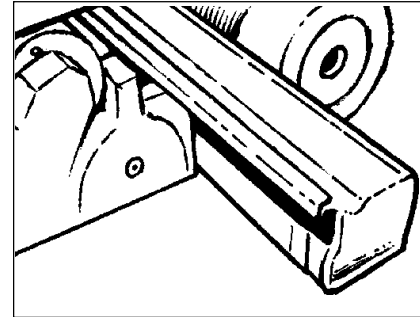

Figure 44
- If you are scrubbing with the cylindrical brush head unit, remove the hopper (see figure 44). Clean it carefully.